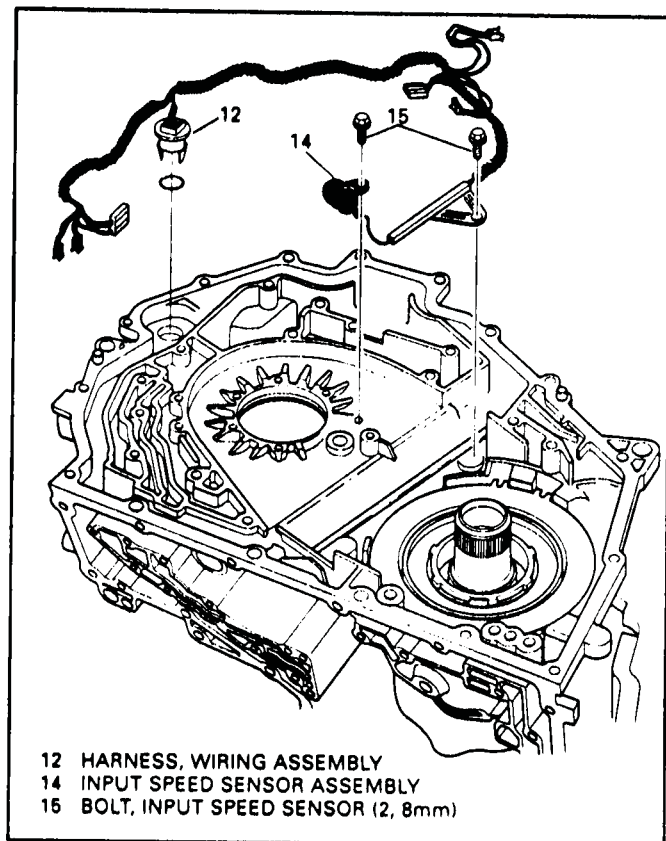

Figure 56
3. Remove the input speed sensor and the wiring harness assembly from case. (See Figure 56).